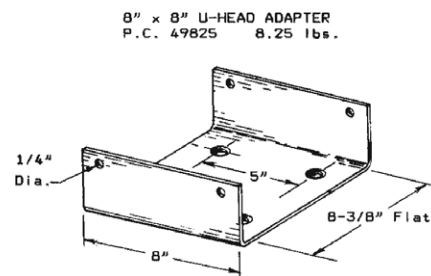

Fig. 17
The U-Head Adapter (Fig. 17) or Aluminum Joist stringer are used with the Meter Screw Jack when the W8x10 stringers are lapped side by side at the shore head. Like the Meter Screw Jack, the adapter has four holes and is attached using two (2) flathead machine screws in diagonal holes. The Steel Beam Clamp secures the stringer to the U-Head.